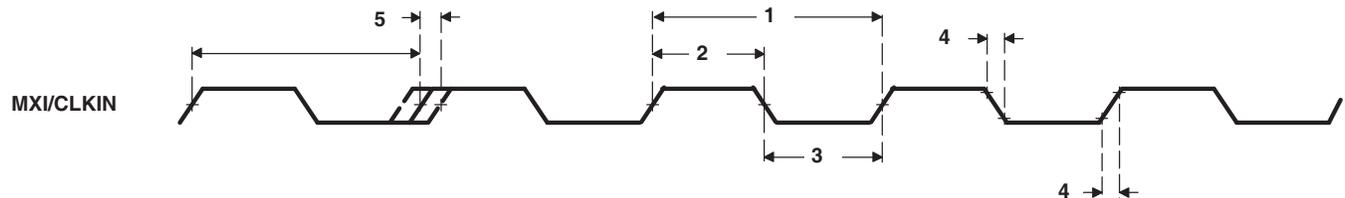

Figure 6-12. MXI/CLKIN Timing
Table 6-19. Timing Requirements for MXI/CLKIN (1)(2)(3)(4) (see Figure 6-12)